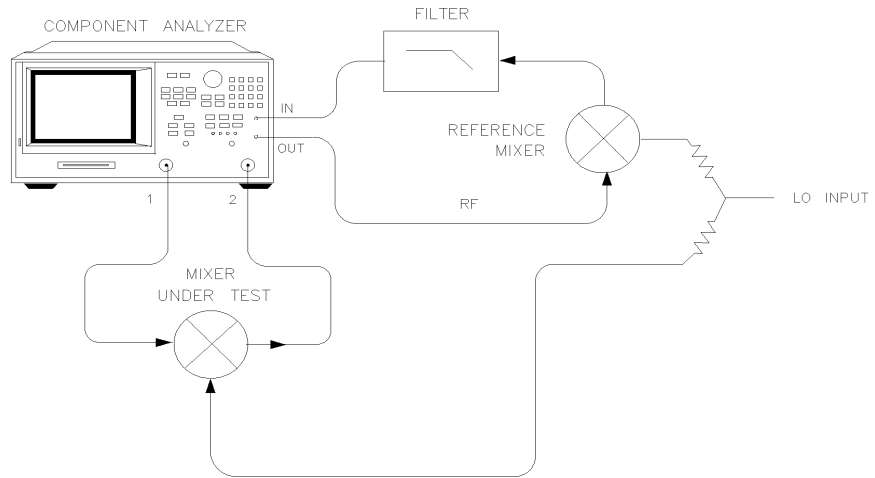

Figure 8-12. Connections for a Phase or Group Delay Measurement
- 4 Connect the instruments as shown in Figure 8-12, placing a broadband “calibration” mixer between PORT 1 and PORT 2.